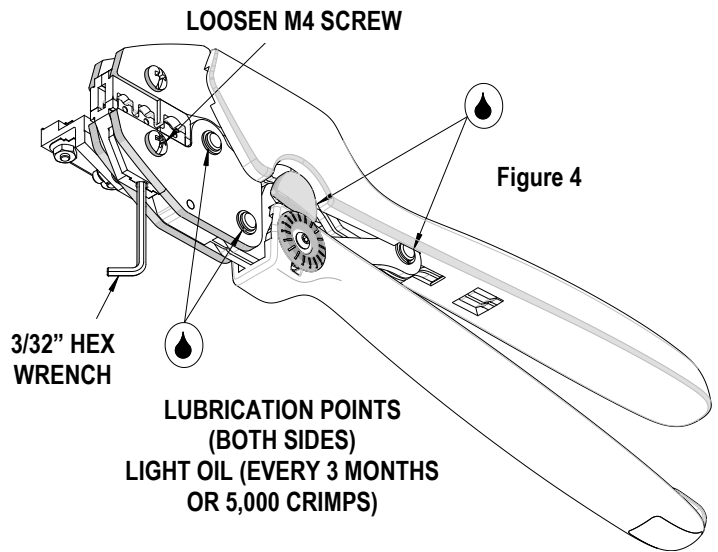

Figure 4
6. If the insulation part of the crimp needs to be adjusted, first loosen the M4 screw on the bottom tool jaw, then insert a 3/32 hex wrench (supplied) into the bottom of the lower die. See Figure 4. A clockwise rotation decreases insulation crimp while a counter-clockwise rotation increases insulation crimp. After adjusting retighten the M4 screw.
3. Make certain all pins; pivot points and bearing surfaces are protected with a thin coat of high quality machine oil. Do not oil excessively. This tool was engineered for durability, but like any fine piece of equipment it needs cleaning and lubrication for a maximum service life of trouble-free crimping. A light oil, such as 30 weight automotive oil used at the oil points shown in Figure 4, every 5,000 crimps or 3 months will significantly enhance the tool life and ensure a stable calibration.